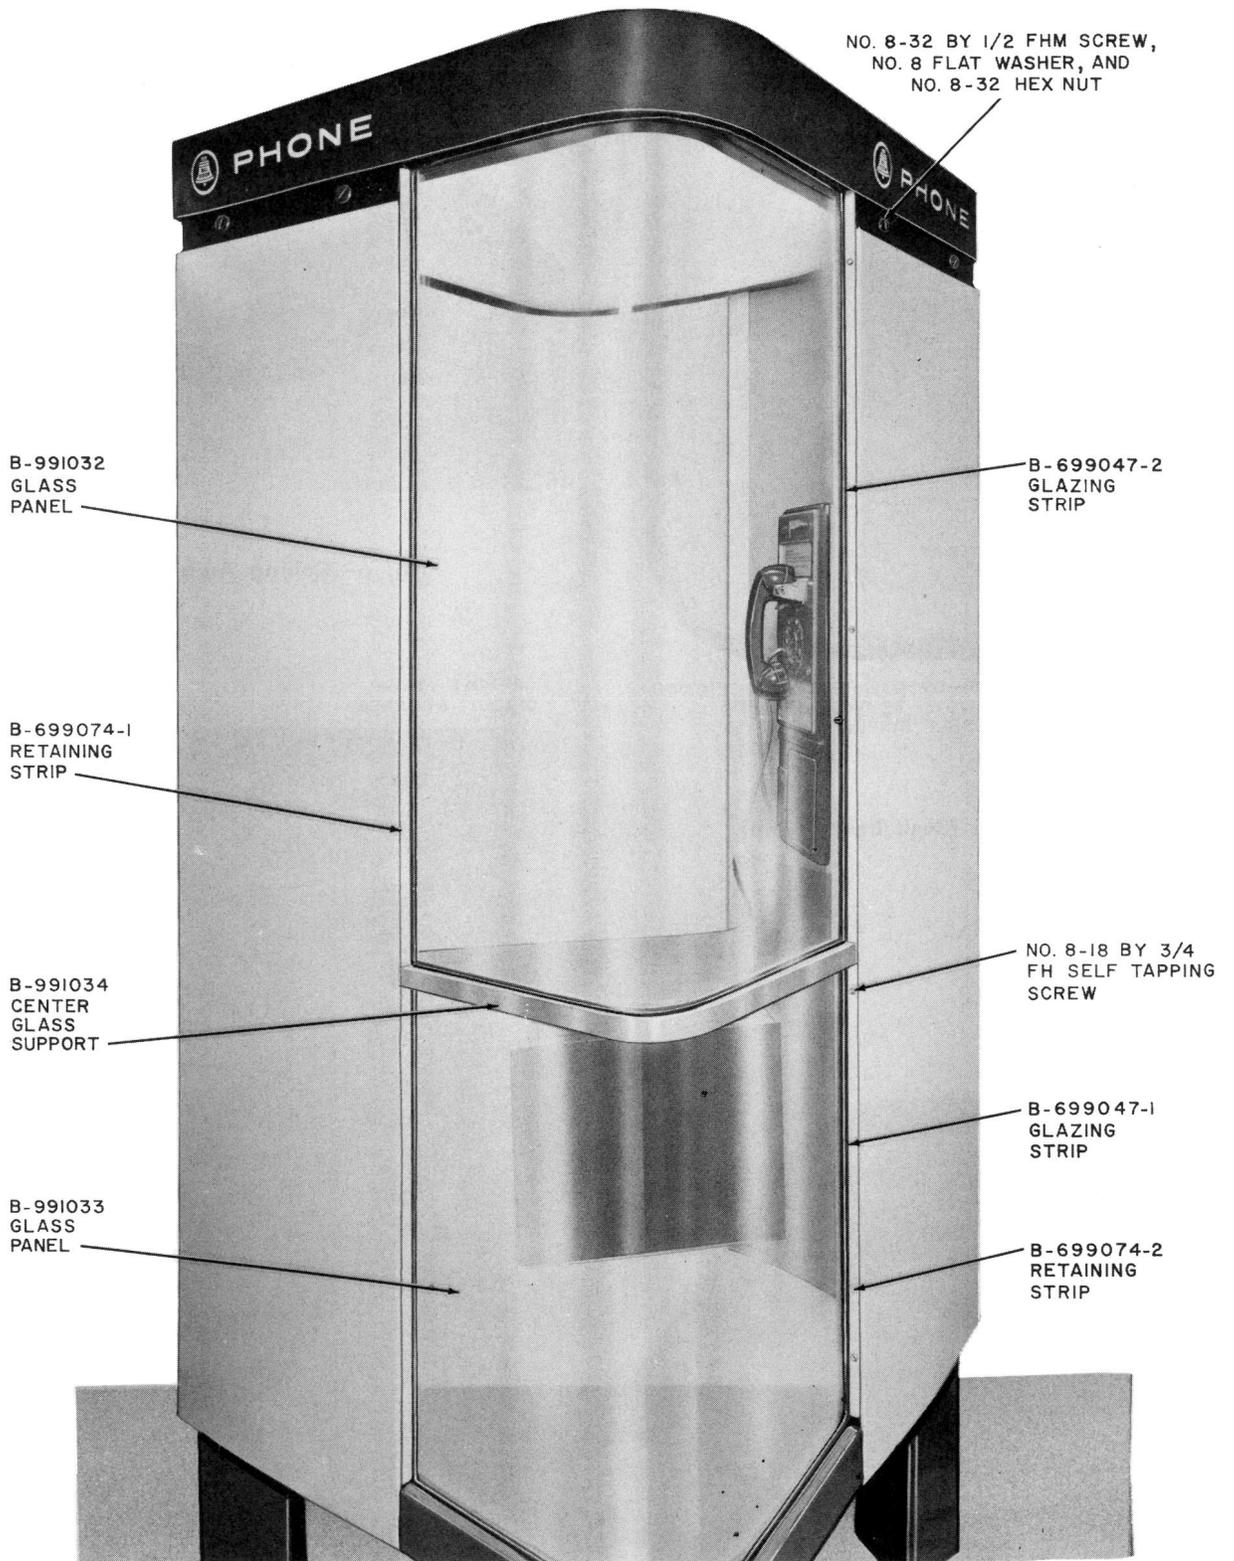

Fig. 3—Capitol Kiosk Booth—Rear View
**2.04** Two curved tempered glass panels fill the entire rear corner between the side walls (Fig. 3). These glass panels improve the acoustics and provide protection from inclement weather.
- (b) Remove four No. 8—32 hex nuts, four No. 8 flat washers, and four No. 8—32 by 1/2 FHM screws from top edge (Fig. 3) and six No.
- (c) Remove four No. 8—18 by 3/4 FH self-tapping screws and remove glass retaining strip (Fig. 3).